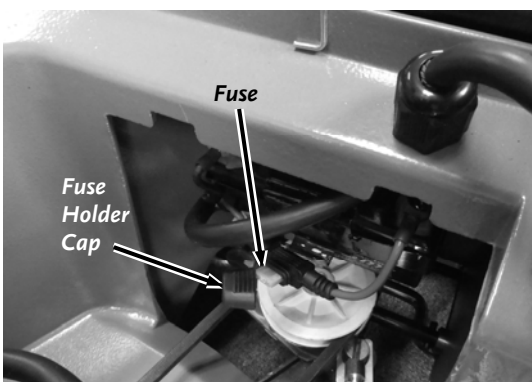

Figure 40
2. Pull the Fuse Holder Cap to access the Fuse (**Figure 40**).